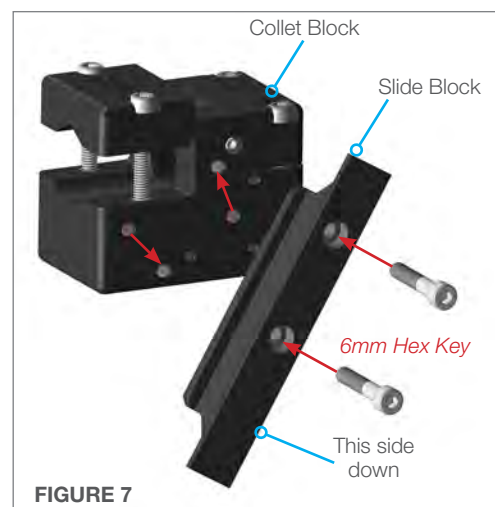

FIGURE 7
1. Remove the Slide Block with a 6mm hex key. Rotate it so that the end with the most distance from the screws is pointing down. Align the holes in the Slide Block with the holes in the Collet Block as shown in **(Figure 7)**. Fasten with the two screws that were removed.